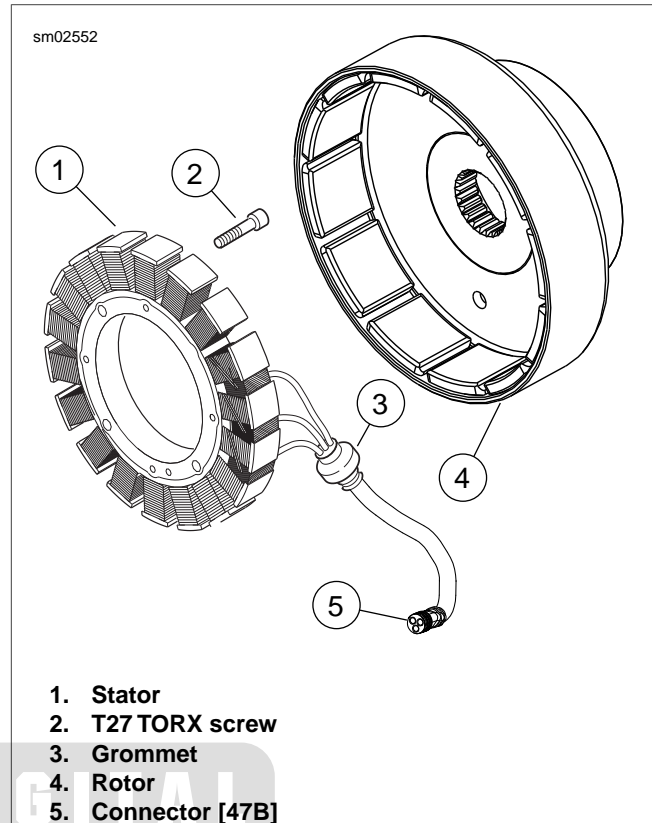

Figure 7-43. Rotor and Stator
5. See Figure 7-43. Remove alternator rotor (4). Two bolts can be inserted through the holes in the rotor face to aid during removal.
See Figure 7-43. Contact cleaner, alcohol or glass cleaner sprayed on rubber grommet (3) will provide lubrication when pulling it through crankcase hole.
6. Move grommet (3) to one side and spray lubricant into gap to lubricate grommet and ease removal. Repeat for other side.
7. Remove T27 TORX screws (2).
8. Remove stator (1) while pulling rubber grommet (3) and wires through crankcase hole.
2. See Figure 7-43. Push rubber grommet (3) with wires through crankcase hole. If necessary, apply the same lubricant used during removal.
3. Install the stator (1) on the crankcase and fasten in place using **new** TORX screws. Tighten to 55-75 **in-lbs** (6.2-8.4 Nm).
4. Mate connector [47] (5) onto voltage regulator and engage latch to secure. See 7.6 VOLTAGE REGULATOR.
5. Install rotor (4) on the sprocket shaft.